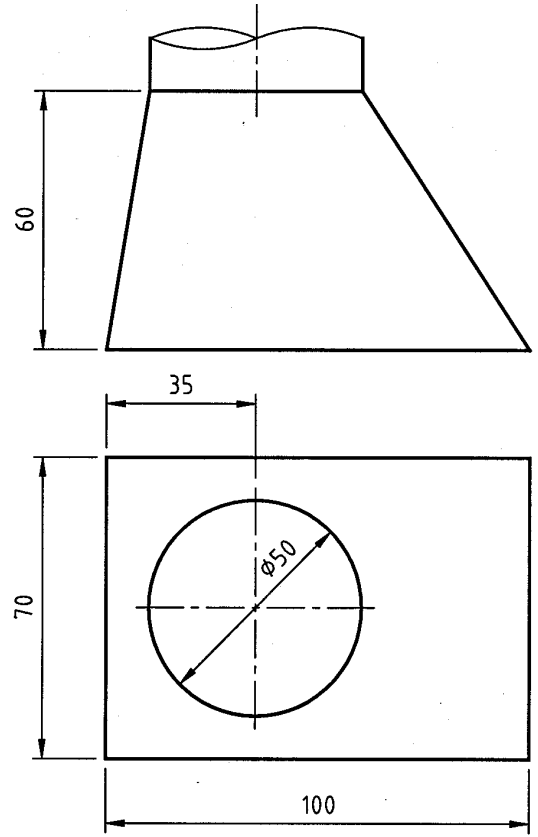

FIG. 3 FÍOR 3
- (b) Fig. 3 shows three views, in first angle projection, of a pipework run. Using the dimensions given draw, to scale 1:10, **a single line isometric** drawing of the pipework which runs consecutively from point A, through all points and finishing at point G. Make A the lowest point in your drawing and ignore the radius of the pipework bends.